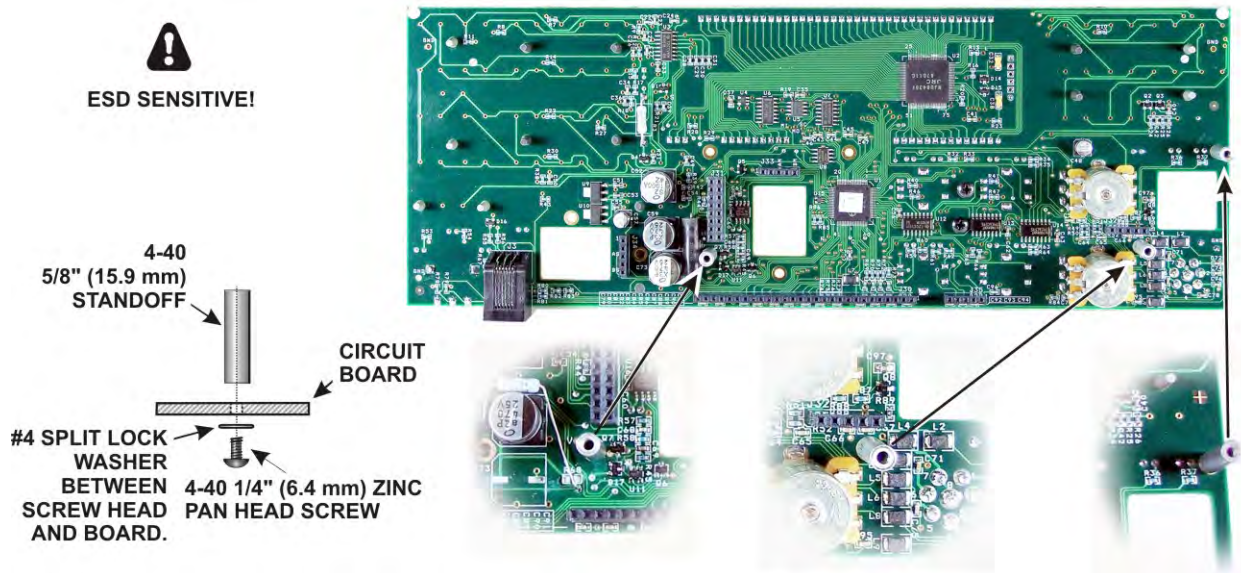

Figure 37. Preparing the Front Panel Board for Mounting, Part 1.
- Mount three standoffs on the back of the front panel board as shown in Figure 37 . Place the lock washer between the screw head and the board as shown.
- Three 4-40 5/8" (15.9 mm) standoffs are mounted on the back as shown in Figure 37.